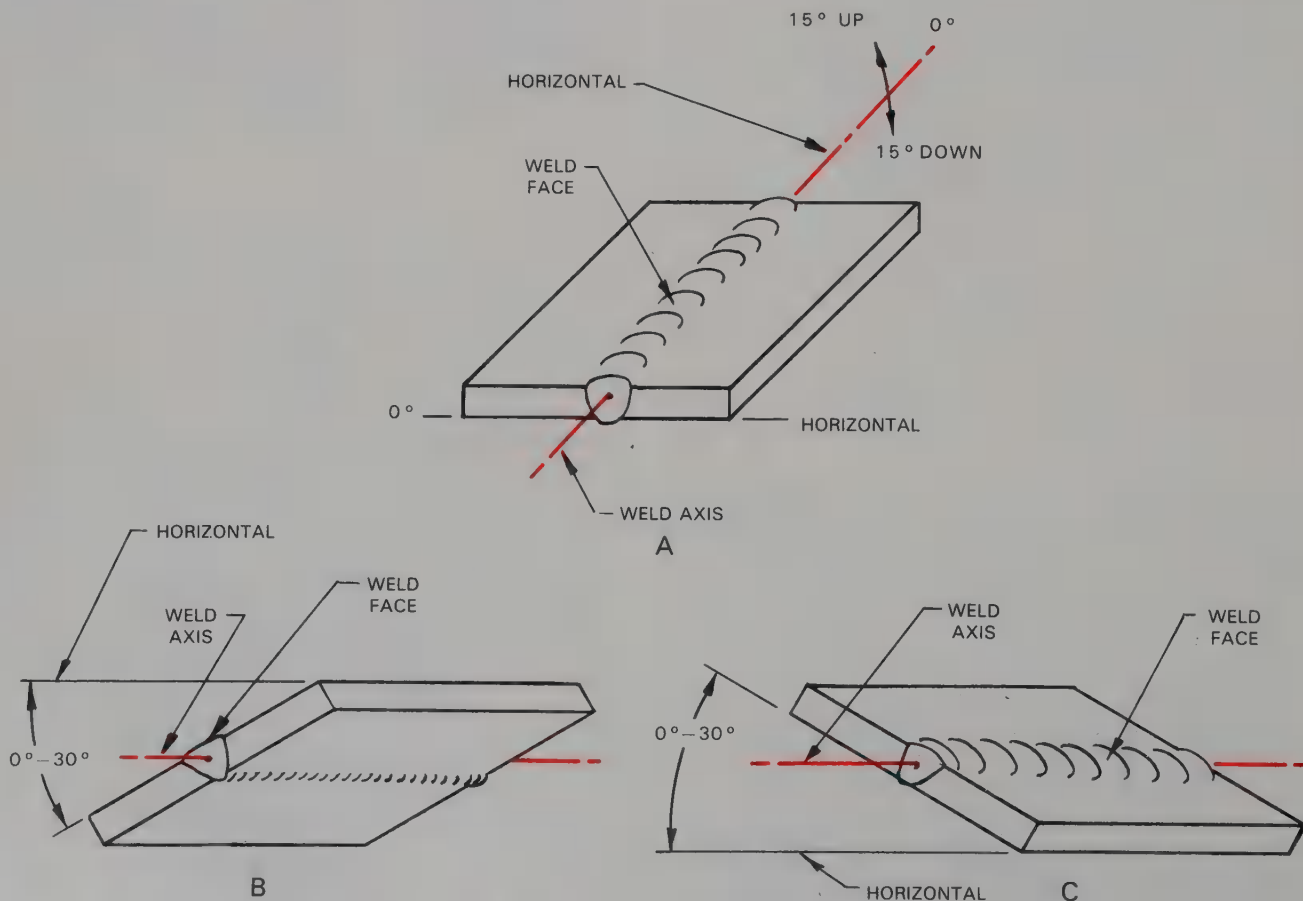

Fig. 3-16. The AWS 1G or flat position. A—The weld axis must be within 15° of horizontal. B and C—The weld face must be within 30° of horizontal.
1. The weld axis must be within 15° of horizontal. See Fig. 3-16.